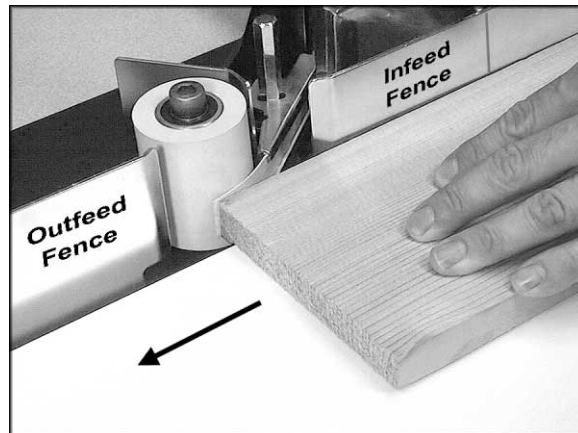

Figure 12
8. Place the workpiece on the table and against the infeed fence. See Figure 12.
9. Push the edge of the workpiece along the infeed fence and against the edge banding material (Figure 12). The edge banding material will be trapped between the pinch roller and the workpiece. The edge banding material will bond to the workpiece.